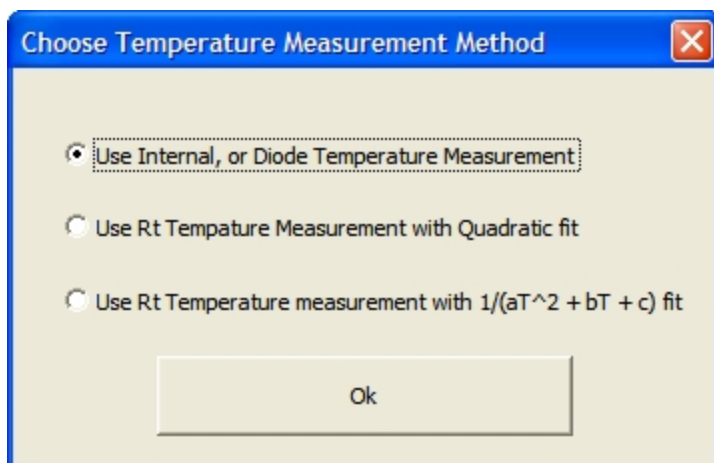

Figure 40: Choose Temperature Calibration Method
- E) Select the appropriate Temperature Calibration Method (see Figure 40).
4) For the example shown, highlight the cell C25 (VoutMeas @ Pmin, Tmeas1) and click the button Insert “Vout Reading” or enter the measured voltage by hand (Figure 40). The example shown is for three pressures three temperature calibration. Other calibrations are done in a similar manner, but the number of readings required and the cells used will differ.
- 6) Place the Sensor + PGA309 at the temperature Tmeas2 and repeat the Steps 3, 4, 5 entering the values to the corresponding cells below the ones shown in Figure 40. At each stage make sure the signal path of the PGA309 is not overloaded by reading the state of the Alarm Register.